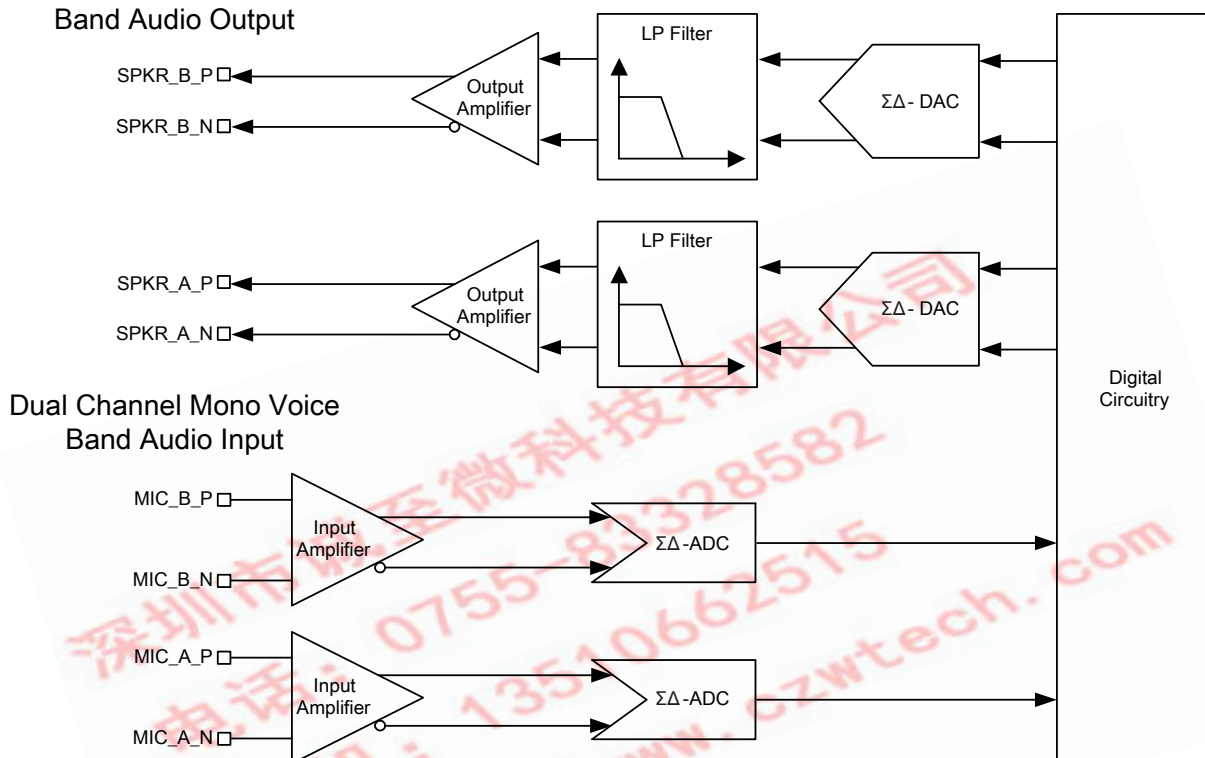

Figure 10.2: Codec Audio Input and Output Stages
- 2 second-order Sigma Delta converters allowing two separate channels that are identical in functionality, as shown in Figure 10.2.
- 2 second-order Sigma Delta converters allowing 2 separate channels that are identical in functionality, as Figure 10.2 shows.